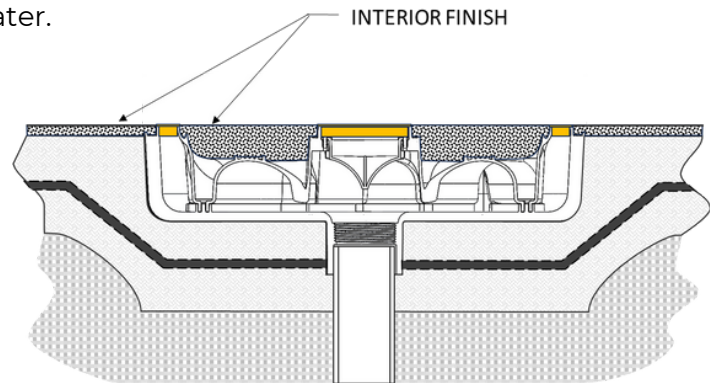

Figure 12
- a. Surface Finish:** Apply the selected surface material in a way to ensure a proper watertight seal with the waterstop. The final finished surface should be flush with the top of the drain. (See Figure 12).